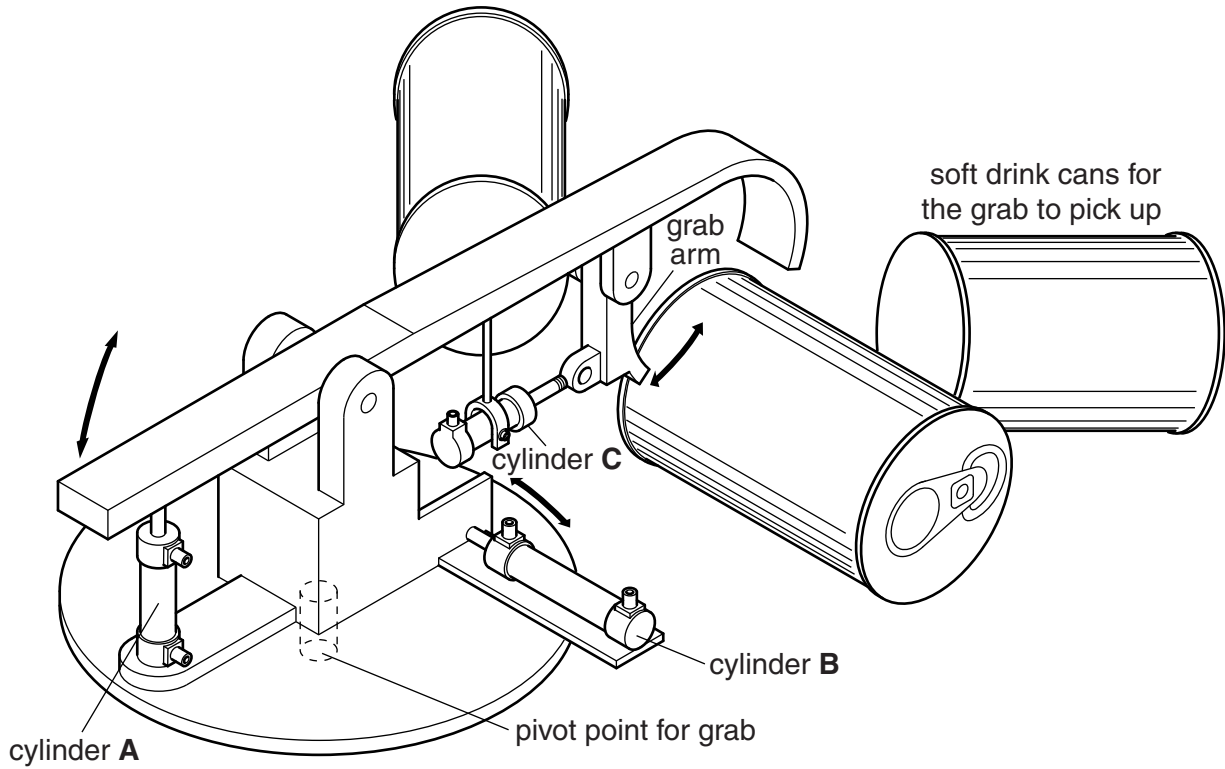

Fig. 1
- 1 Fig. 1 shows an incomplete layout of a pneumatic grab game found in amusement arcades. The pneumatic grab is controlled by 3 cylinders **A**, **B**, and **C** which position the grab arm to close around a can of soft drink, allowing it to be picked up.